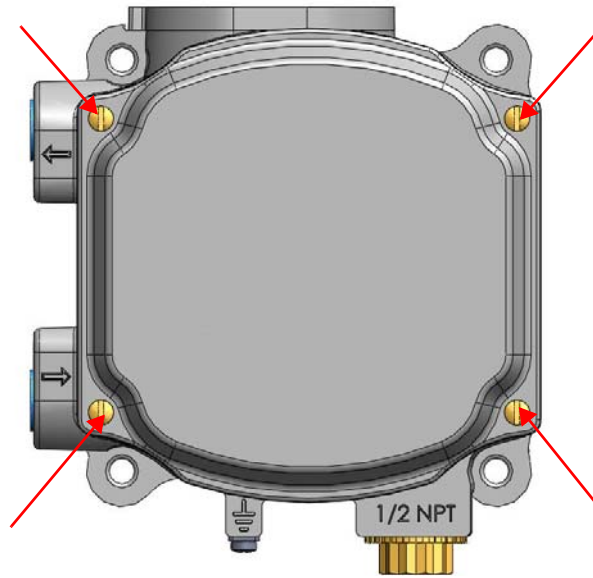

Figure 23 Front Cover
1. Loosen the four (4) cover screws and remove the SVi1000 cover (Figure 23).